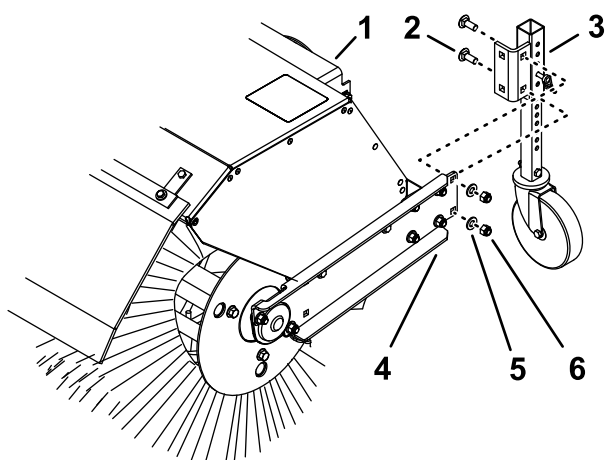

Figure 21
When working in snow, move the casters from the front of the broom arm to the back the broom hood (Figure 21).
- Remove the 2 locknuts, 2 washers, and 2 carriage bolts (Figure 21) that secure the caster bracket to the broom arm.
- At the back of the broom hood, align the holes in the caster bracket with the holes on the inboard side of the broom arm (Figure 21).
- Secure the caster bracket to the broom arm with the 2 locknuts, 2 washers, and 2 carriage bolts (Figure 21).